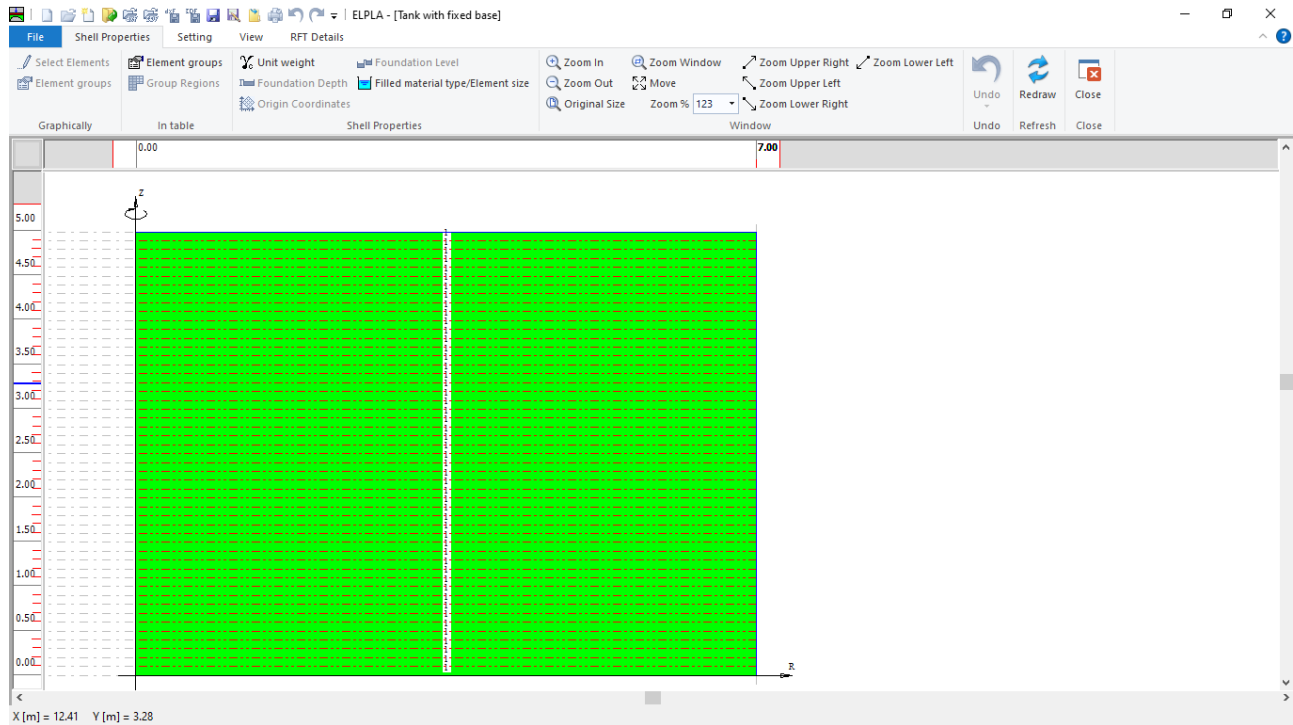
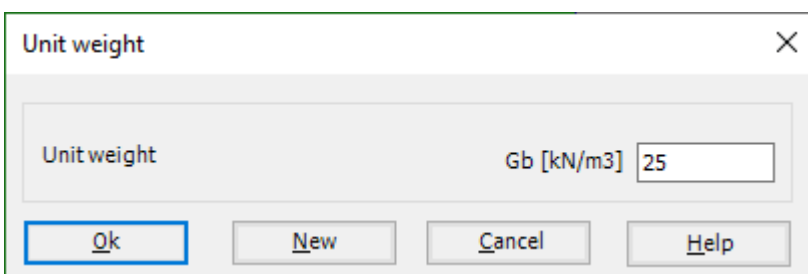

Figure 3.10 "Shell Properties" Window
Figure 3.12 "Unit weight" dialog box
To define the tank properties, choose "Shell Properties" command from "Data" Tab. The following window in Figure 3.10 appears with default shell properties. The data of shell properties for the current example, which are required to be defined, are element groups, unit weight of the shell and the filled material properties.
To enter the unit weight of the shell, choose "Unit weight" command from "Shell Properties" menu in the window of Figure 3.10. The following dialog box in Figure 3.12 with a default unit weight of 25 [kN/m³] appears, Click "OK" button.
To define the liquid properties of the shell, choose "Filled material type/Element size" command from "Shell Properties" menu in the window of Figure 3.10. The following form in Figure 3.13.
- Choose "Save" command from "File" menu in Figure 3.10 to save the shell properties
- Choose "Close" command from "File" menu in Figure 3.10 to close the "Shell properties" window and return to *ELPLA* main window